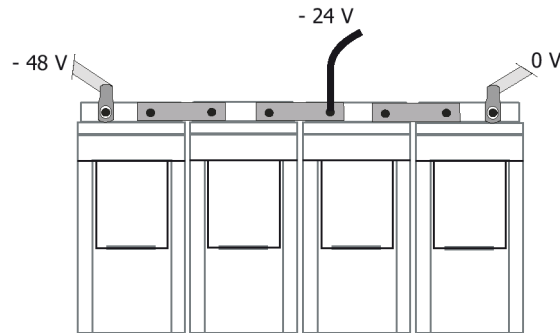

Figure 4-19 2-block Symmetry Measurement (for illustration only)
2. For 2-block battery symmetry measurement fix one wire of the symmetry cable to the cable lug in the mid-point of the battery string, see Figure 4-19.